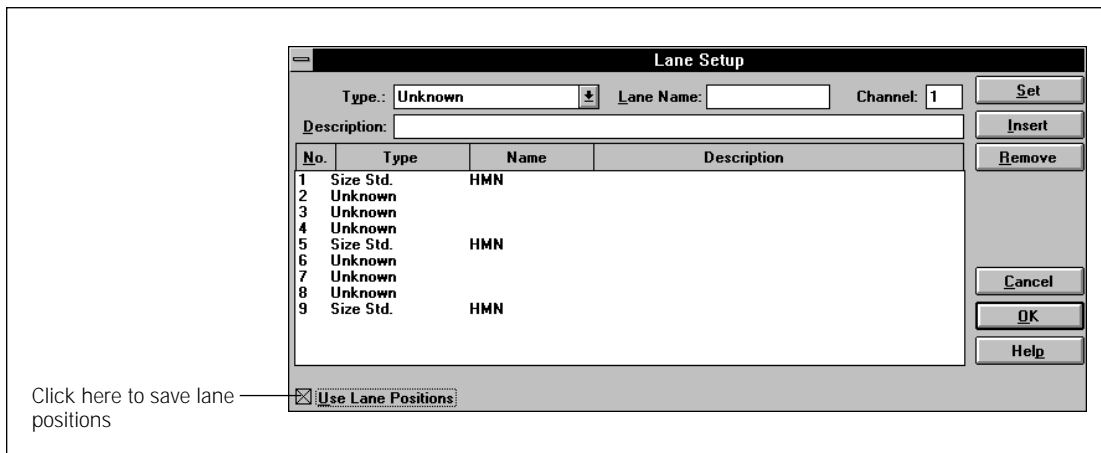

Figure 4-6. Saving your specifications.
If you want to save the lane positions, make sure the **Use Lane Positions** check box (Lane Setup window, figure 4-6) has an X in it.
3. In the Experiment Form, click the **Lane Setup** button. The Lane Setup window appears (figure 4-6).